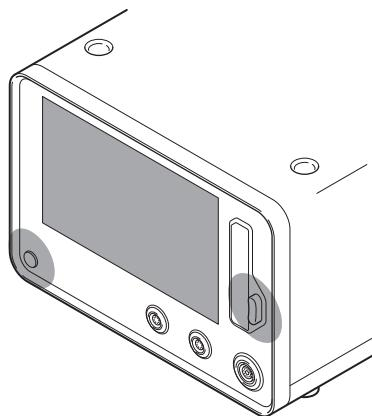

**Figure 126 – Foot Pedal Critical Wipe Down Areas**
2. Wipe critical areas such as the foot pedal treadle, irrigation flush button, and any other areas that may be soiled (Figure 126).